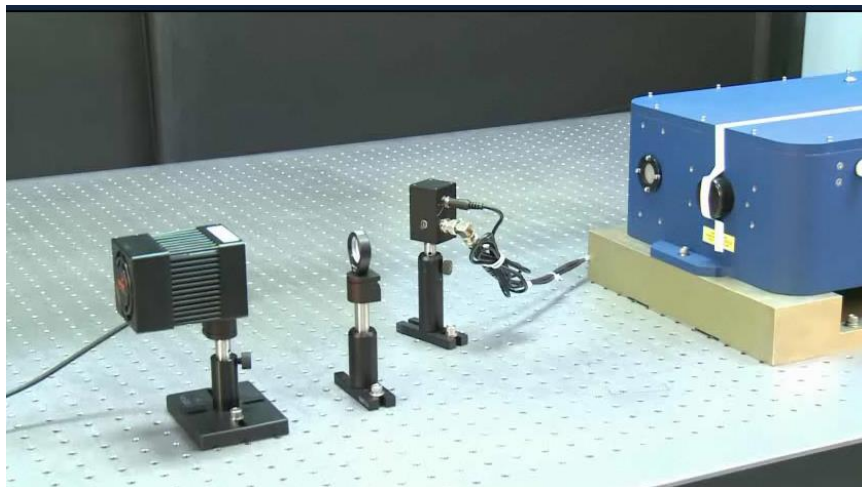

Figure 4-1. Setup for the laser power test
A power meter, with the ability to handle a minimum of 30 W, should be installed approximately 1.5 feet away from the laser in the direction of the laser output beam. To protect the power meter, a negative lens ($f=-100$ mm) with an anti-reflective (AR) coating at 532 nm should be installed in front of the power meter as shown in **Figure 4-1** below. If a negative lens is not available, the power meter should be at least 2 m away from the laser so that the beam size is larger and the power density is below the damage threshold of the power meter. A pulse detector should be positioned as shown in **Figure 4-1** to verify the pulse characteristics of the laser.